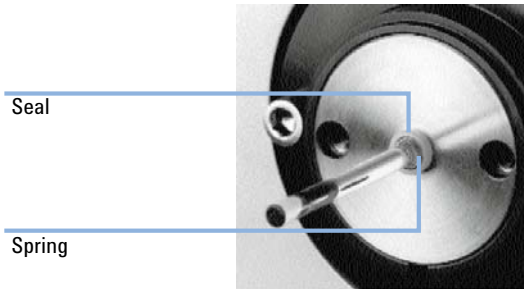

Figure 39 Washing section seal
- 2** Align the holes with the screw holes on the piston assembly (see Figure 39 on page 90).